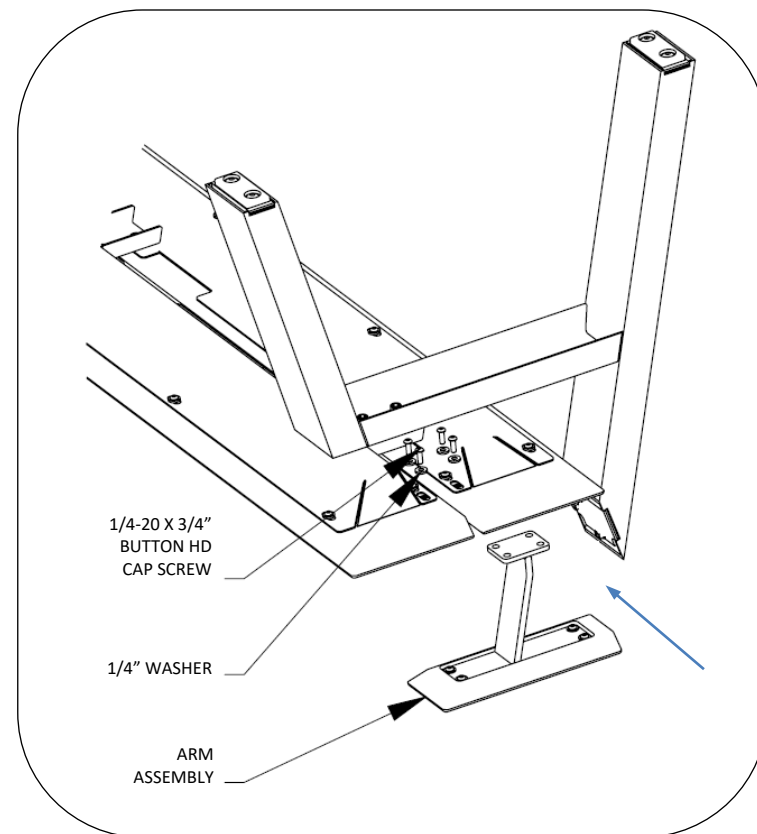

Fig. 2 – attach arm, if specified
3. Install arm assemblies, if specified, using (4) 1/4-20 x 3/4" button head cap screws and washers per arm, see Fig. 2.